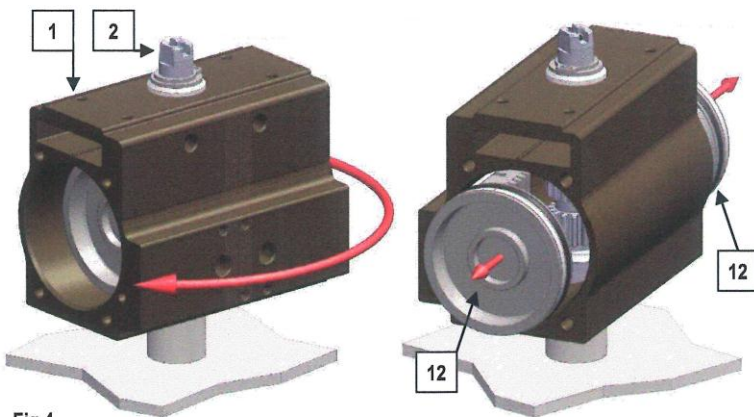
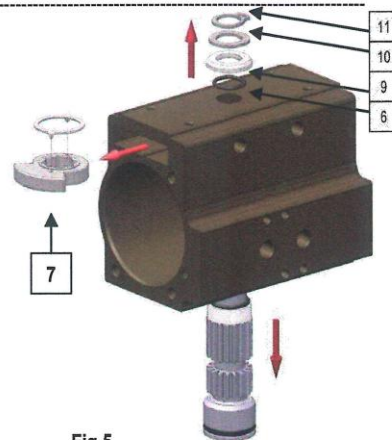

Fig.4
Fig.5
8. Rotate the cylinder (1) in CLOCKWISE direction (top view) holding the pinion (2) so as to release the rack of the pistons (12) from the pinion (2) and to push the pistons towards to the cylinder ends. Now both pistons (12) can be removed see Fig. 4.
- NOTE: Do not use compressed air to remove the pistons (12) from the cylinder (1)
9. Remove the snap ring (11) from the pinion (2), the washer (10), the spacer (9) and the O-ring (6) see Fig. 5 ;
10. Extract the pinion (2) from the cylinder (1) by pushing it down, with special caution for all seating's, see Fig. 5 (if necessary use a rubber hammer);
11. Tilt the cylinder (1) and let the cam (7) slide out, see Fig. 5.